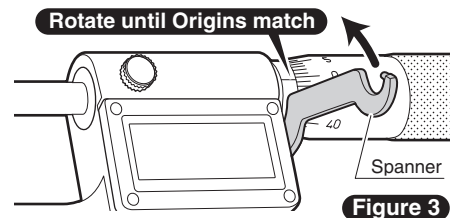

Figure 3
3. Use spanner to rotate Sleeve to align the 0-Point lines. **Figure 3**